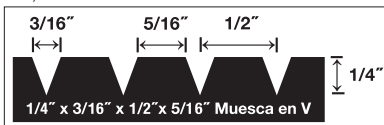

Figura 2
- Lana en V de 1/4" x 1/2" x 3/16" (6 mm x 13 mm x 8 mm) (Figura 2)